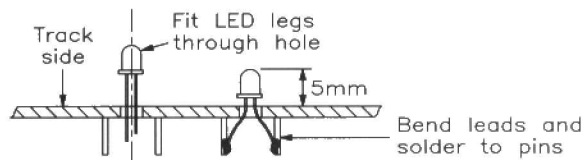

Figure 8. Fitting the LEDs.
Refer to Figure 8 for fitting the two LEDs on the track side of the PCB. The shortest lead is the cathode (K) on the flat side on the legend. Next correctly orientate and insert the ICs into their sockets.